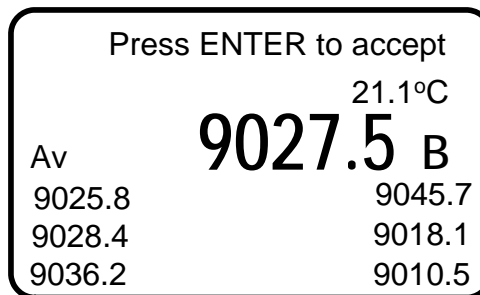

Figure 26 – Storing Reading Multiple Readings
- Figure 26 illustrates a location that has 6 sensors associated with it. Each individual reading is displayed with the average reading in bold. These readings are accepted in the same manner by pressing *Enter*.